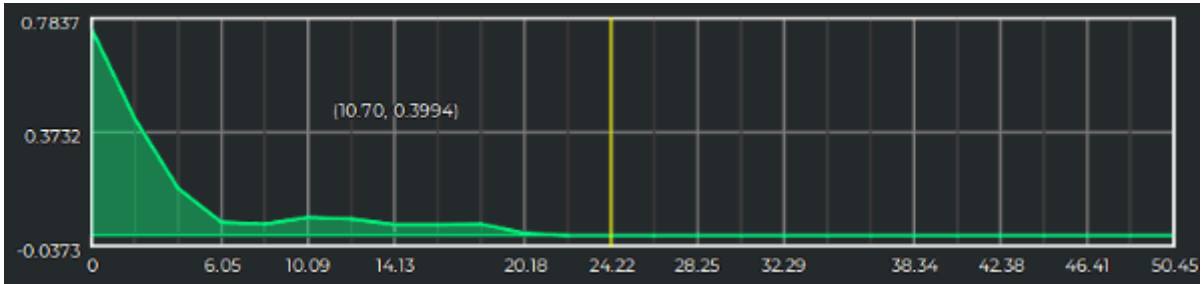

Figure 2.38: Oscillation factor 0,3
- Specify the oscillation factor value in the **Oscillation factor** field. Permissible values are all non-negative real numbers. The default value is 0,01; The oscillation factor provides for the maximum permissible ratio of the oscillation amplitude value to the peak value of the response function graph. Figures 2.38 and 2.39 show response function graphs for the same ROI but different oscillation factor values.